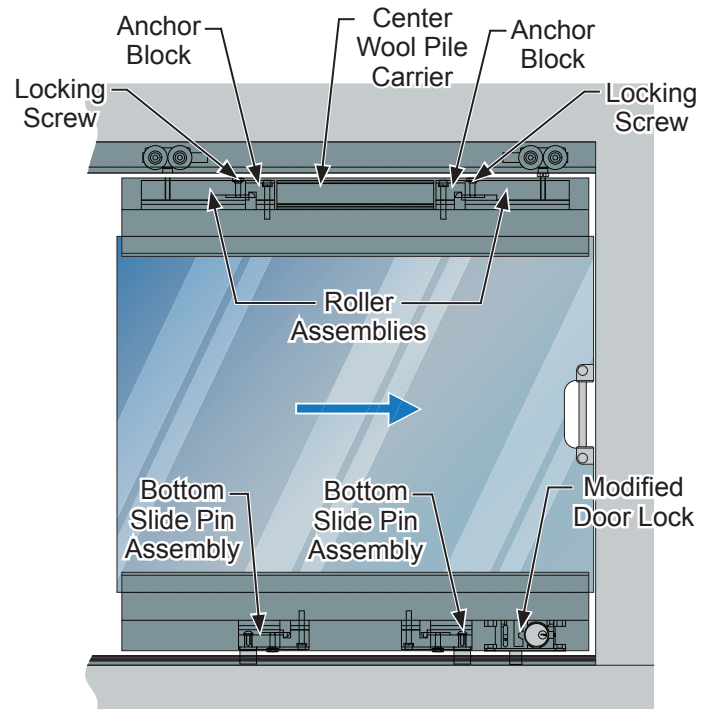

FIG. 10
2. Align the end of the top rail with the roller assembly block. Slide the roller assembly block into the top rail until it contacts with the anchor block. While maintaining contact, tighten the locking screw. Repeat this process at the other end of the top rail. **(FIG. 10)**